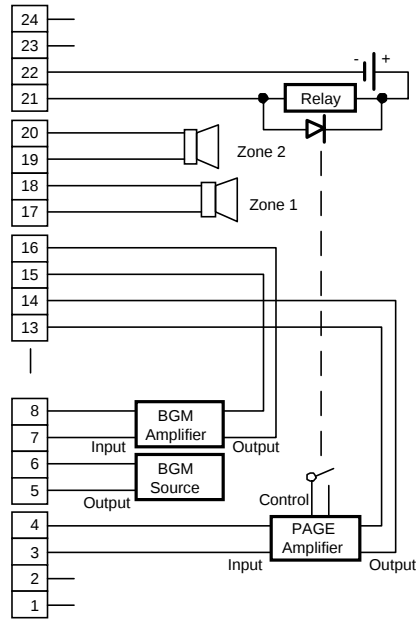

FIGURE 40. BGM WIRING
2. Connect the BGM source output to the punchdown block as illustrated in Figure 40.